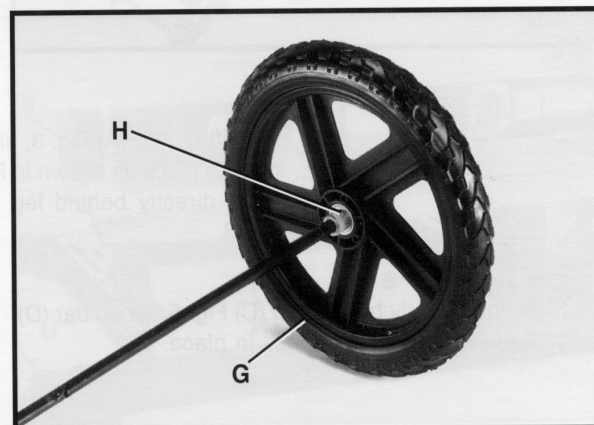

Fig. 8
5. Place wheel (G) Fig. 8, on axle against the axle cap that was assembled to axle in **STEP 4**, and slide spacer (H) on axle and against wheel, as shown.